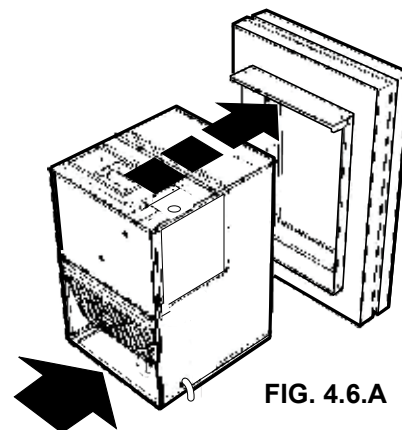

FIG. 4.6.A
- b. Duct-only module can be removed separately (FIG. 4.6.B). Refer to section "5.2.1 Duct-Only Module Removal".